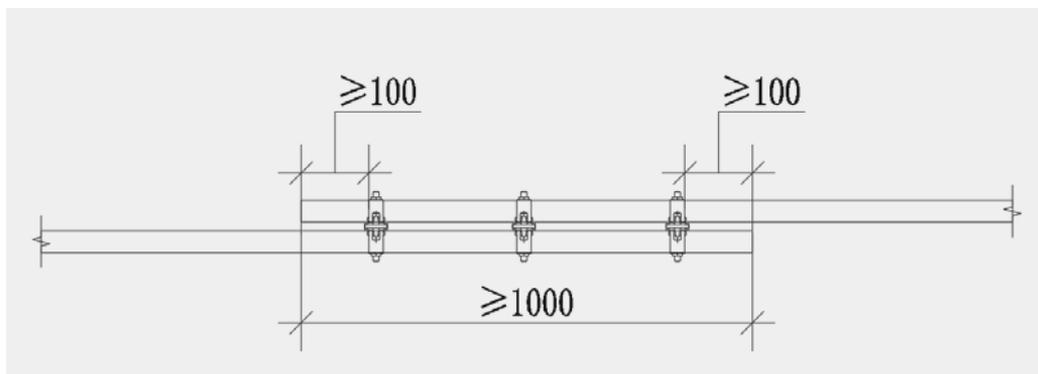

Figure 5.2.4 Steel Tube Overlap Installation Diagram
- When extending the length of braces, they shall be connected using an overlap joint, with the minimum overlap length being no less than 1000mm. Furthermore, this overlap shall be secured with a minimum of three equally spaced swivel couplers(as shown in Figure 5.2.4). The distance between the connection points of the horizontal braces and the node of the scaffold shall not exceed 300mm.